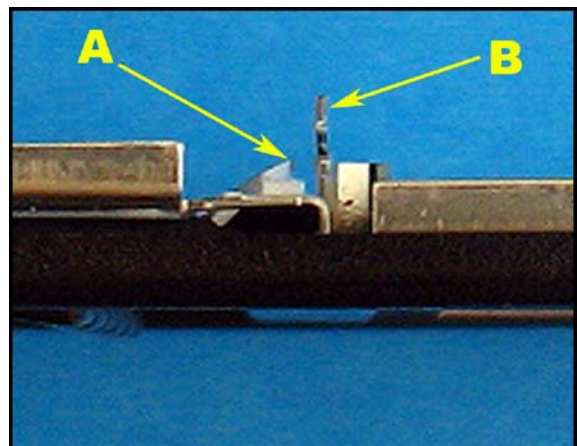

Fig. 27 - relative height comparison of keyboard ribbon to tab.
- Insert the foam and check from the side view that the keyboard ribbon is raised, Figure 27.
In Figure 27 we see that the old compressed foam raises the keyboard flex PCB about 30 degrees. The new foam insert should raise the keyboard flex PCB at least 45 degrees. Use the tab height **B** as a reference for the height of the keyboard ribbon **A**, Figure 27.